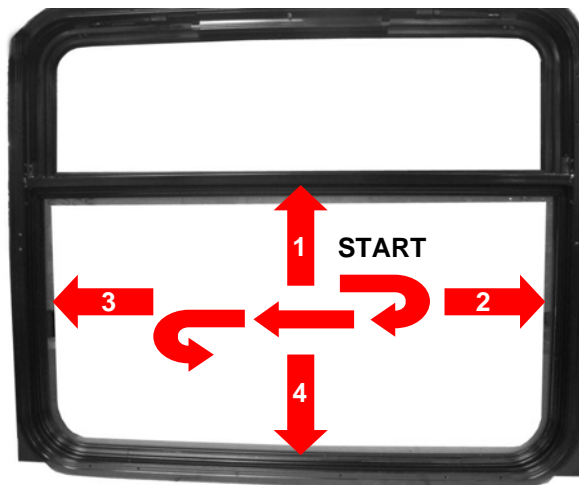

FIGURE 3-20. REPLACE CLIPS (CLOCKWISE)
- 6) Refer to **Figure 3-20**. Replace clips starting at top and work clockwise.